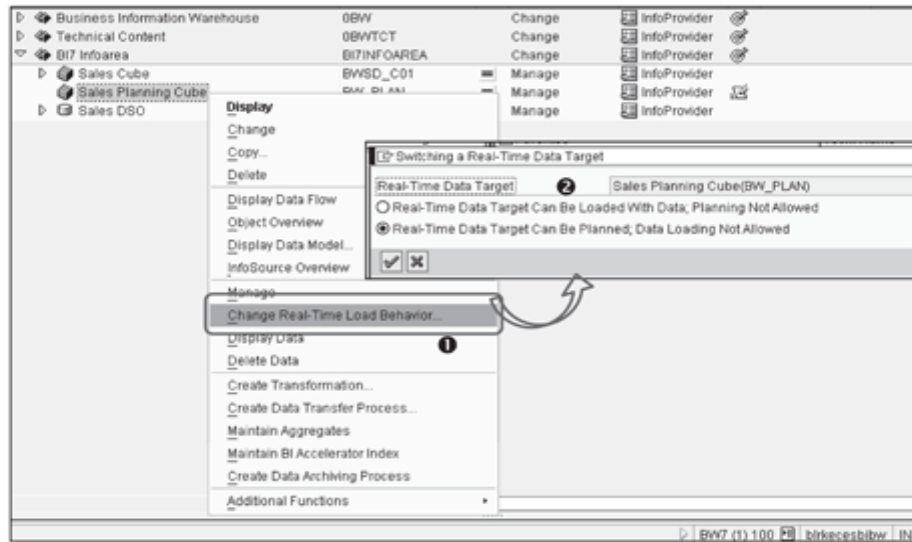

Figure 12.11 Changing Real-Time Load Behavior
In the Data Warehousing Workbench (DWW) (Transaction RSA1), you can see the option CHANGE REAL-TIME LOAD BEHAVIOR in the context menu of the real-time InfoCube (❶ of Figure 12.11). Selecting this option displays a pop-up screen where you can set the real-time load behavior of the InfoCube (❷).